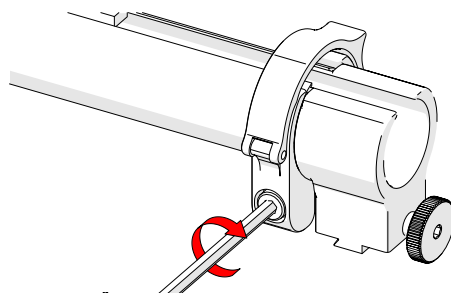

Fig. 90 - Tighten clamp screw
4. Tighten the clamp screw (*Fig. 90*).